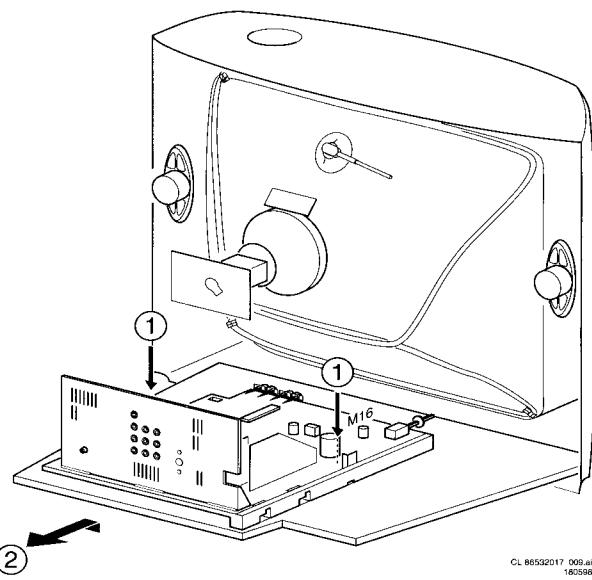

Figure 4-2
- push the 2 clips at the right hand side of the mains filter bracket outside (2)
4.2.2 Mono carrier (figure 4.2)